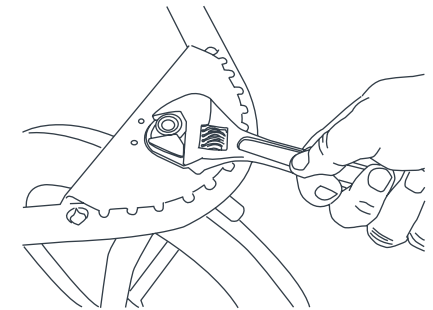

Fig. 21
- 21)** • If you experience front wheel wobble that is beyond what is normal for use while walking or jogging you may have to adjust the front wheel housing nut. This nut is located under the footrest located at the front of the jogger. You can use a standard crescent wrench to tighten the nut (Fig. 21). **DO NOT OVER TIGHTEN** this can cause damage to the wheel housing.